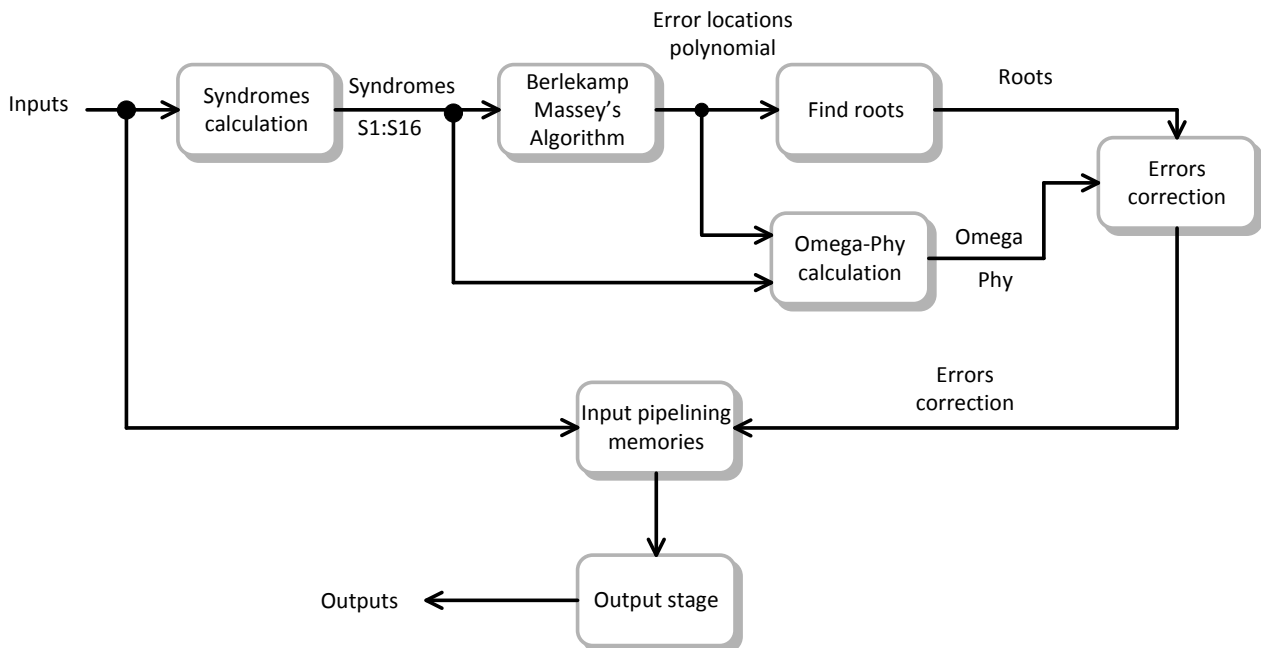

Figure 2: Block diagram of the Reed Solomon decoder
- Error correction unit calculates the errors locations and values, then it will write the corrected values in the pipelining memories, as shown in Figure 2.